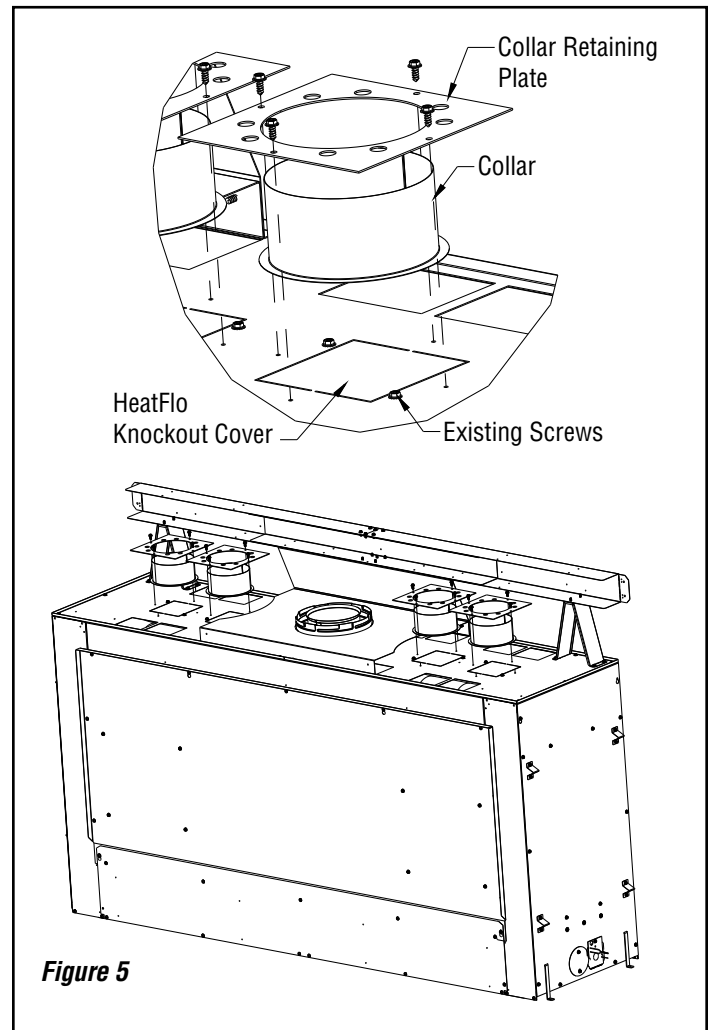

Figure 5
3. Remove the two (2) existing hex head screws from each of the four (4) HeatFlo knockout covers. Twist the four (4) HeatFlo knockout covers back and forth until they can be removed and discarded (see **Figure 5**).
4. Place the collars over each knockout opening, then place the collar retaining plate over them and fasten down with the provided #10 hex head screws (see **Figure 5**).